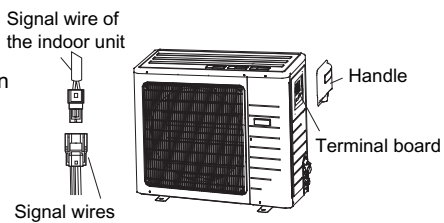

Fig.21
2. Please refer to the electric wiring connection of the indoor unit, then fix them with wire clamp.(As shown in Fig.21)